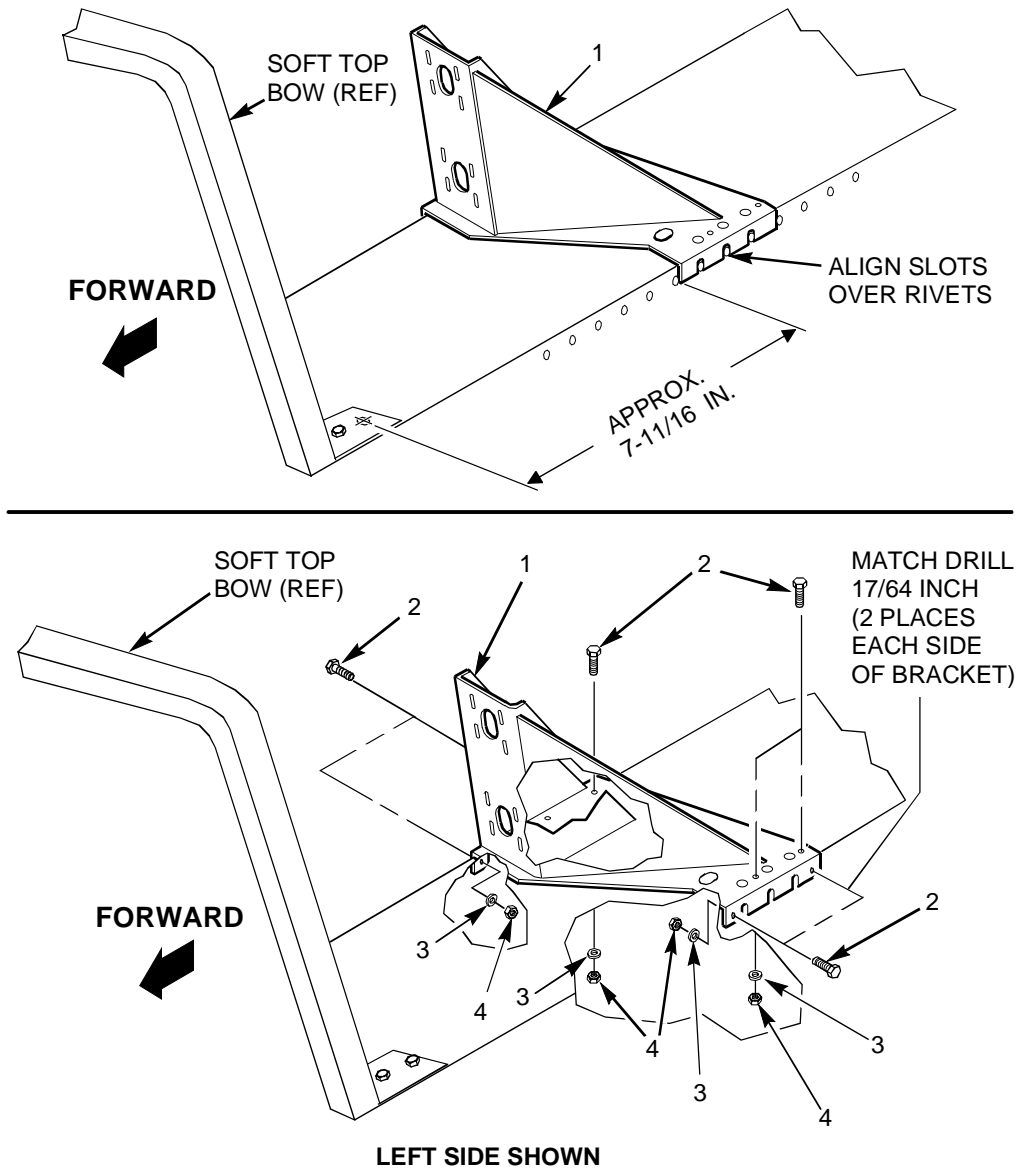

Figure 1-12. C-Partition Support Mount(s) Installation (4 Door Only)
- 2) Install C-partition support mounts as follows (see figure 1-12).
- a. Locate C-partition support mount (1) on vehicle rear wheel house as shown in figure 1-12.
- b. Match drill four (two on each side of support mount) 9/32 inch holes through C-partition support mount (1) and vehicle rear wheel house.
- c. Grind rivets flushed on inside of rear wheel house, as required, to ensure a flush fit of nuts (4).
- d. Install eight capscrews (2), washers (3), and locknuts (4) to secure C-partition support mount (1). Torque capscrews (2) to 10 lb ft (14 N•m).